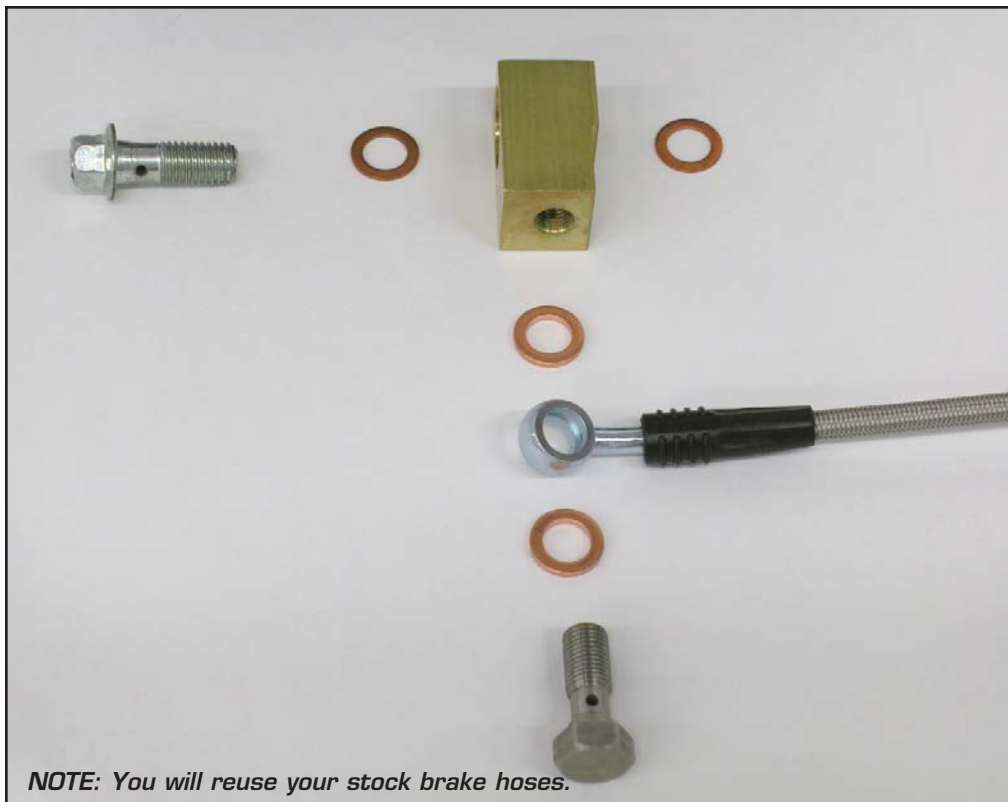

Figure 1
- 5) Install the brass adapter block to the back of the caliper using the metric banjo bolt and copper washers supplied. Secure the original flex hose to the adapter block using the 3/8" banjo bolt and copper washers supplied. Torque the banjo bolts to 20 ft/lbs. See figures 1 & 2.
Install the brass adapter block as shown in figure 1. Torque the banjo bolts to 20 ft/lbs. Turn the wheels lock to lock to ensure there is no interference or twisting of the flex lines.